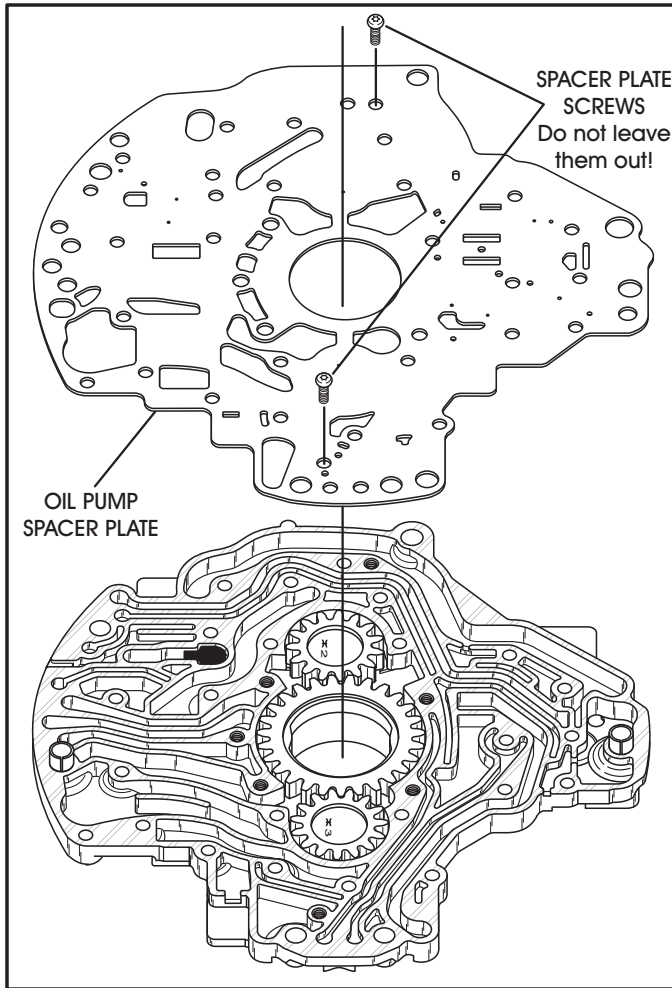

Figure 92
12. Install the oil pump spacer plate onto the pump body over the dowels as shown in Figure 92.
13. Install the two screws to retain the spacer plate on the pump and torque to 4.5 Nm (40 in lbs). Refer to Figure 92. **Note: Leaving these two screws out will equal no engagement!**